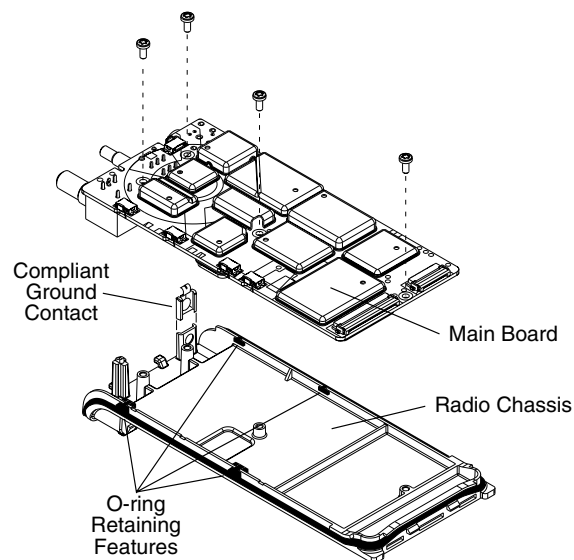

Figure 3-5 Remove Main Board from Chassis
2. Lift the main board from the chassis (See Figure 3-5).